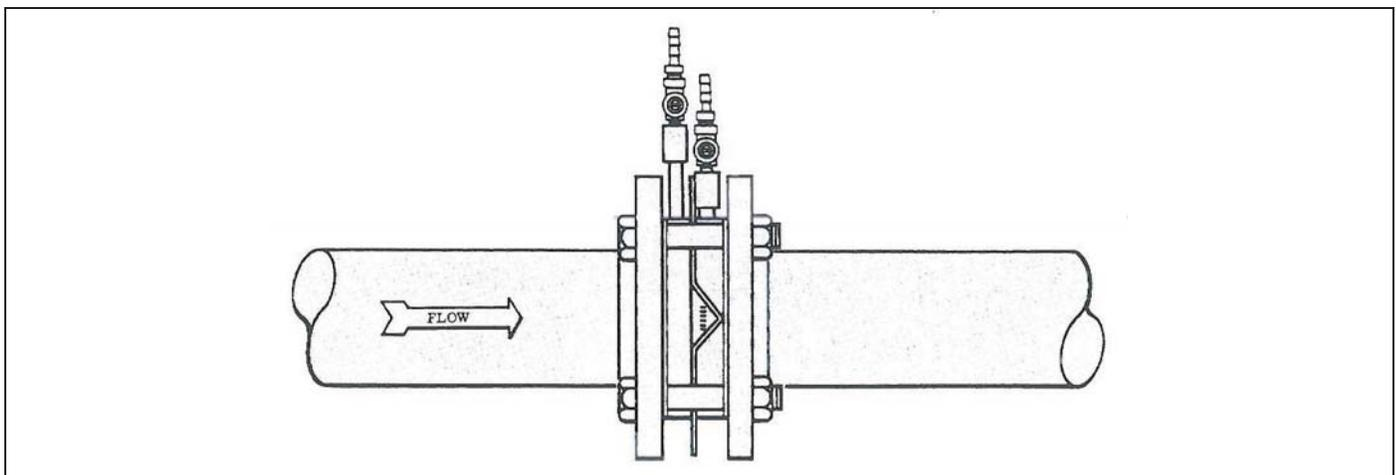

Figure 6.
6. Install the remaining flange bolts and tighten all bolts. Figure 6 illustrates the assembled unit.